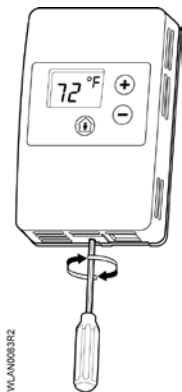

Figure 1. Step 1.
1. Use a 1/16" hex key to turn the safety set screw clockwise one or two revolutions (see Figure 1) to tighten the screw and unlock the cover from the base plate.